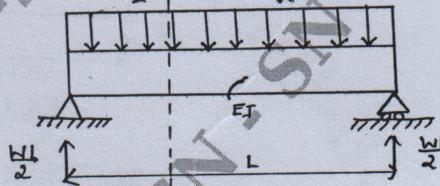

Fig.Q1(b)
- b. Determine the deflection curve and mid-span deflection of the simply supported beam shown in Fig.Q1(b); the beam has a doubly symmetrical cross section. (06 Marks)